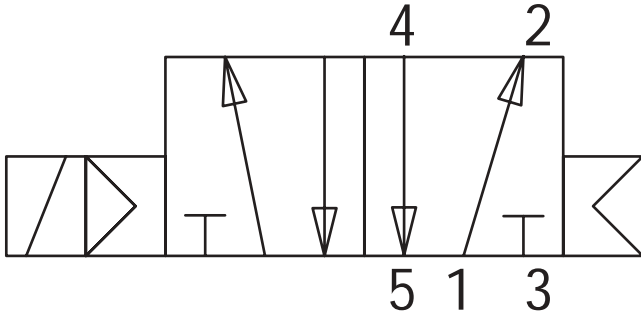
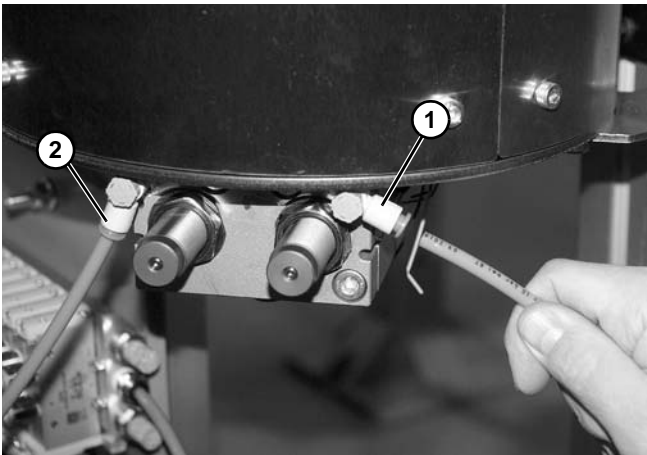
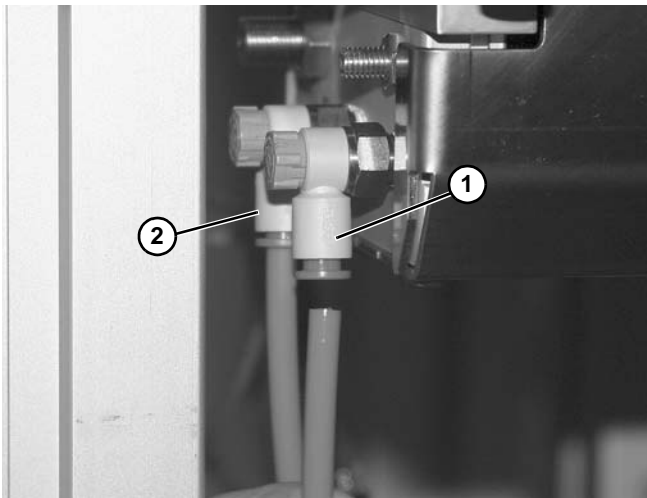

Figure 78
Figure 79
Figure 86
Dorner recommends using a 5-port 2-way solenoid valve (**Figure 78**) to operate the Rotating Actuator.
1. Connect Port 4 (**Figure 78**) of the 5-port 2-way solenoid through the outer port (**Figure 79, item 1**) on the pallet pusher. Dorner fittings accept 1/4" outside diameter tubing standard.
2. Connect Port 2 (**Figure 78**) of the 5-port 2-way solenoid through the center port (**Figure 79, item 2**) on the lift. Dorner fittings accept 1/4" outside diameter tubing standard.
3. Connect Port 4 (Figure 78) of the 5-port 2-way solenoid through the outer port (Figure 86, item 1) on the pallet pusher. Dorner fittings accept 1/4" outside diameter tubing standard.
4. Connect Port 2 (Figure 59) of the 5-port 2-way solenoid through the center port (Figure 86, item 2) on the lift. Dorner fittings accept 1/4" outside diameter tubing standard.